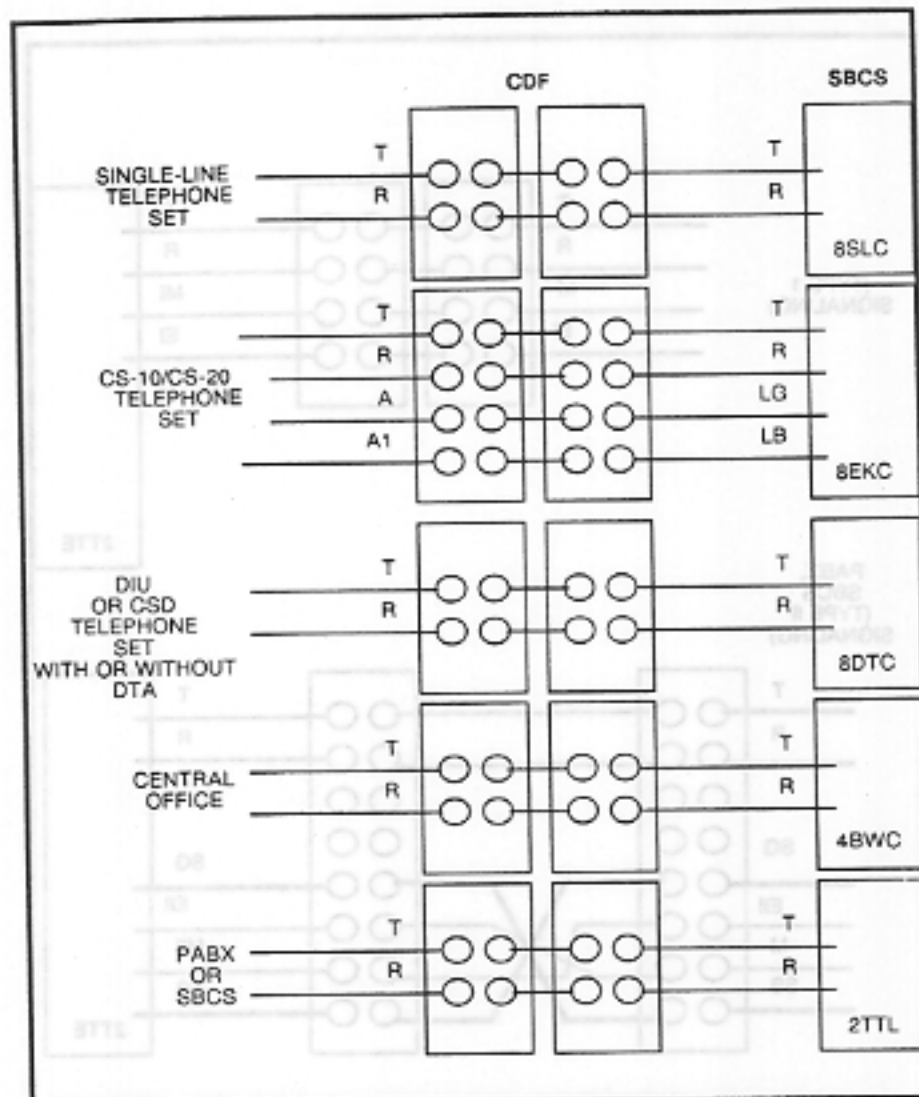
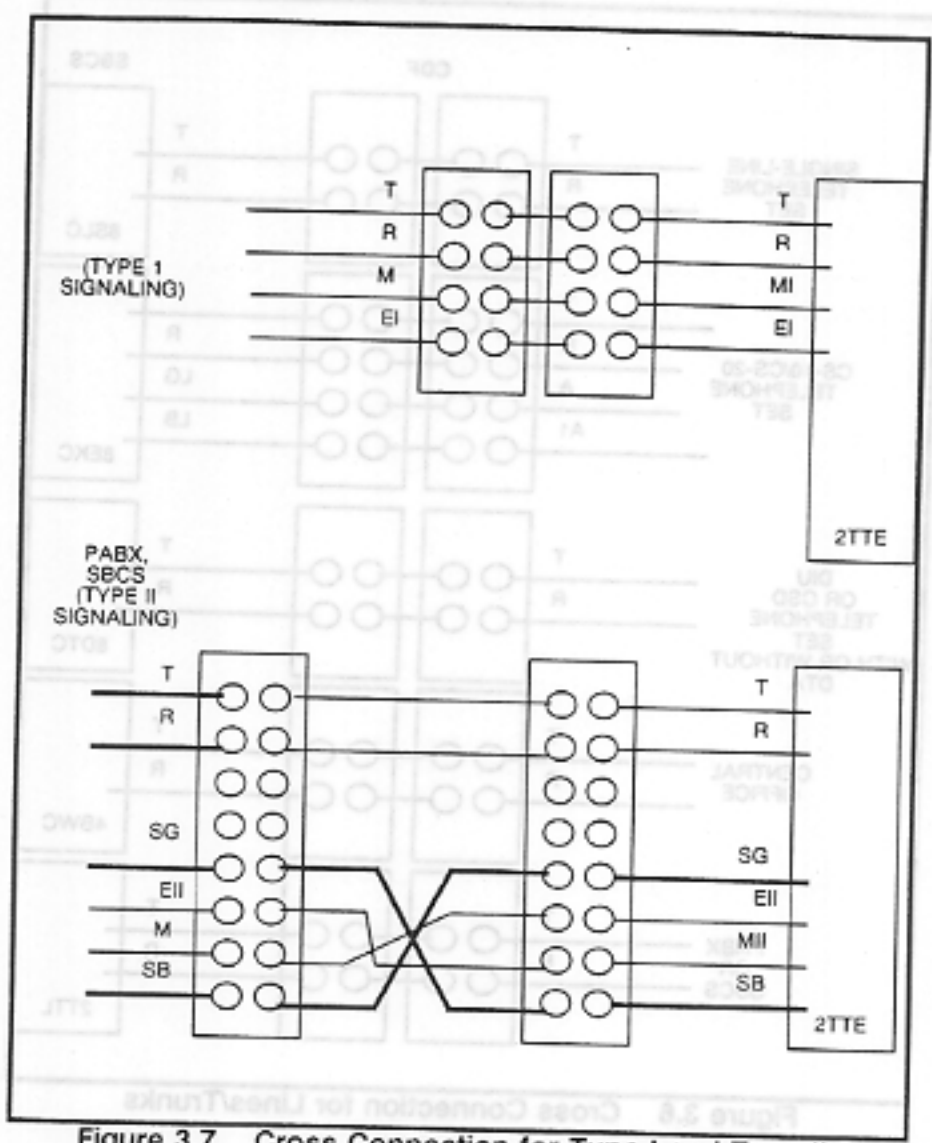

Figure 3.6 Cross Connection for Lines/Trunks
Figure 3.7 Cross Connection for Type I and Type II Signalling
3.4.3 Peripherals are cabled to the CDF and cross connected to the system CDF cables using the CDF terminal blocks. Figure 3.6 and Figure 3.7 show the general cross-connect configurations for system peripherals, PABXs, and CO trunks. Specific cross-connect assignments are provided in the applicable installation sections.